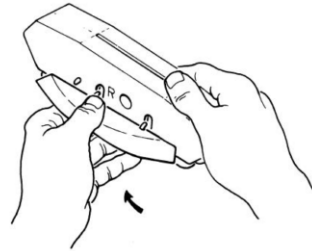

Figure 10
- b) Remove the old wings by raising the wings up toward the sides of the cleaner and lifting them off their hooks (See Figure 10). If any of the wing hooks are broken, take the cleaner to your Hayward dealer for a pod replacement since the unit will not function properly if the wings are not securely attached with the pod hooks.